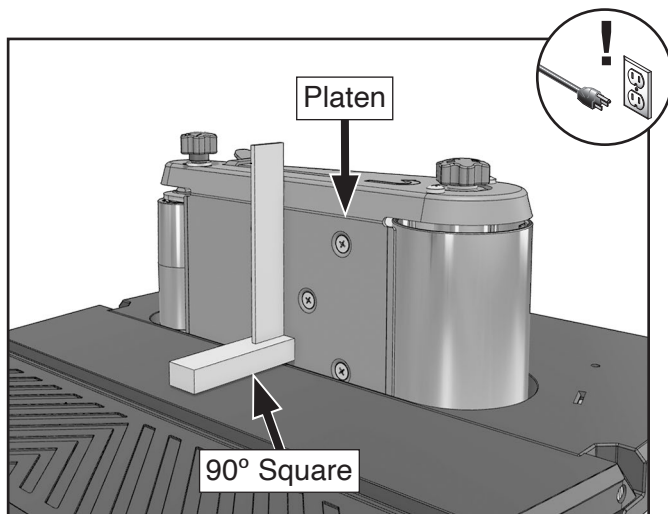

Figure 51. Checking table squareness at 0°.
3. Adjust table to 0°, then place 90° square on table against platen (see **Figure 51**).